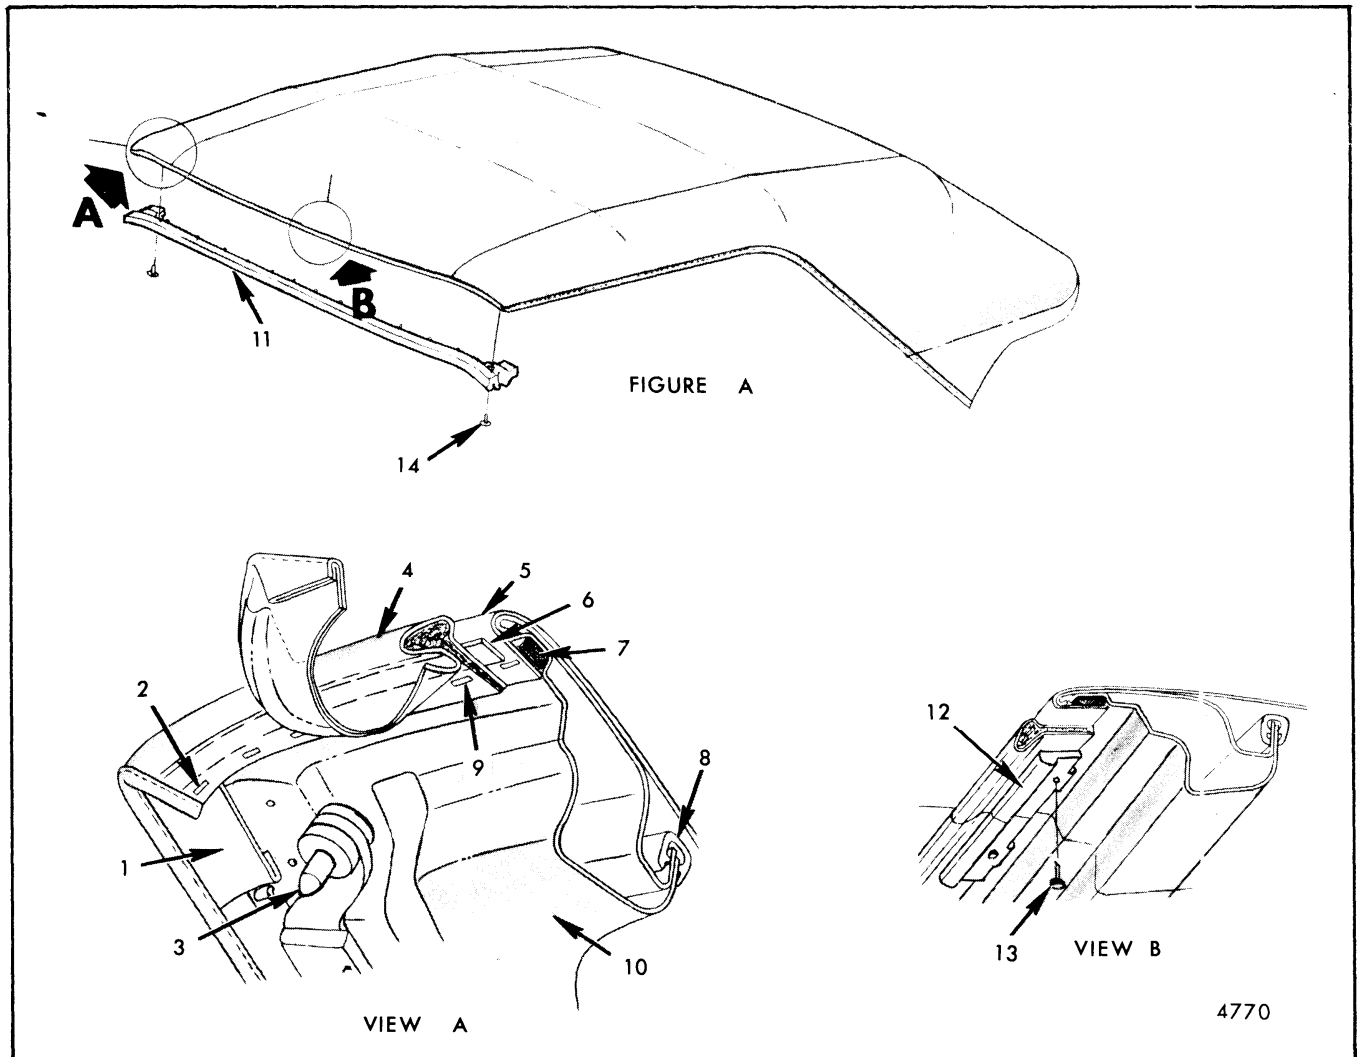

Fig. 8-53-Front Roof Rail Parts Attachment
2. With top lowered, detach top cover at front roof rail as follows (Fig. 8-53):